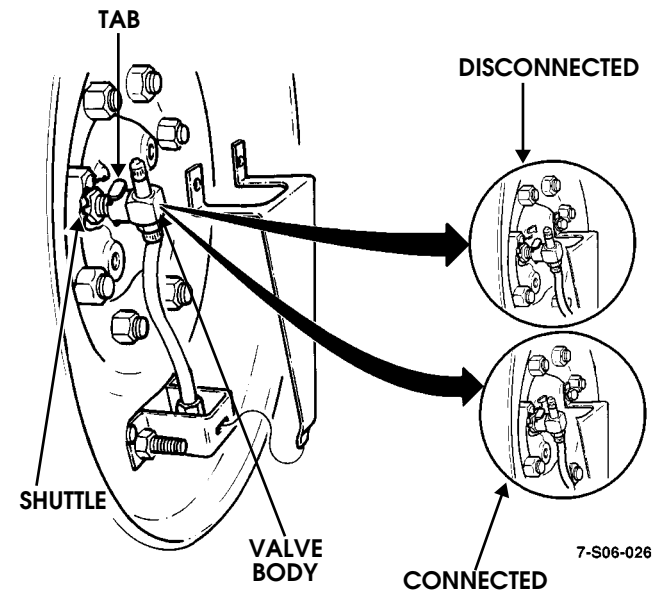

Figure 13-58: CTIS Quick-Disconnect Valve
2. Isolate tire by depressing metal tab on quick-disconnect valve body. The valve body will pop out approximately 1/4 in. (6 mm) from shuttle. Perform this procedure on remaining three wheels (Figure 13-58).
3. Connect tires to CTIS by pushing in quick-disconnect valve body until valve tee section locks (clicks) into place. Perform this procedure on remaining three wheels (Figure 13-58).